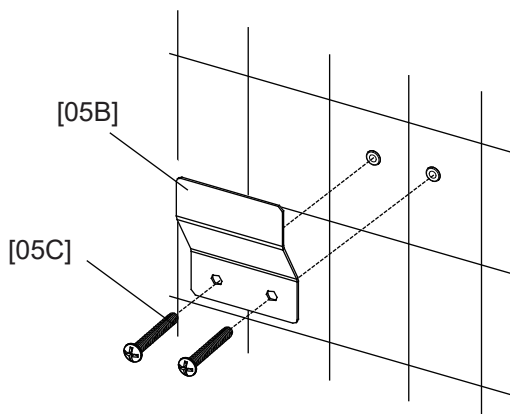

Fig 2.3
**2-3** Secure the **Brackets [05B]** with **Screws [05C]**. (Fig 2.3)